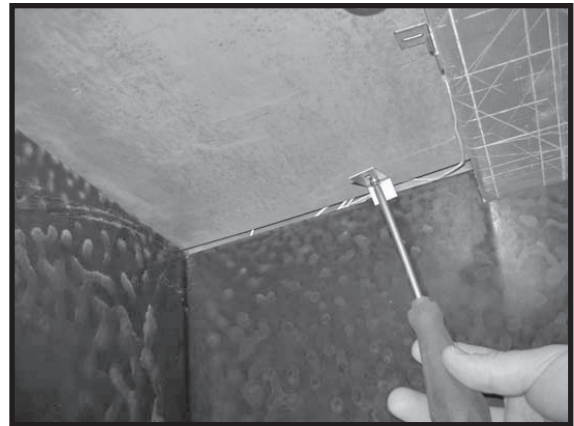
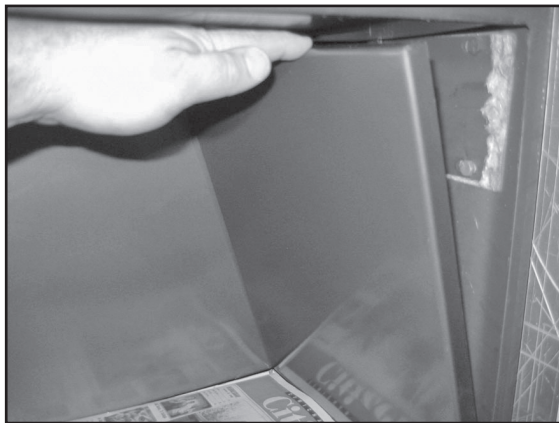

Figure 62: Side panel retainer.
Figure 63: Removing side panel.
3. Remove the right side panel retaining clip (Figure 62) and remove the side panel (Figure 63).